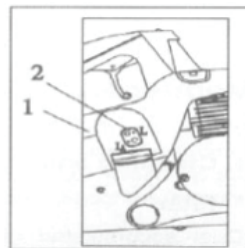

Fig 9
2. Adjusting the carburetor The carburetor has been preset and factory adjusted to provide an optimum mixture of fuel/air, for an efficient, reliable operation of the motor, with reduced emissions. The air filter and spark plug must be inspected and maintained periodically. If the angle grinder is found to be working unsatisfactorily (such as idling, excessive or insufficient speed or the persistence of abnormal noxae), a slight adjustment of the carburetor may be necessary, including (ref. Fig. 9):
a. Standard setting adjustment Find the low speed adjustment Screw "L" (see Fig. 9) within the upper slot of the carburetor cover, with the help of a screwdriver turn the L screw clockwise full torque. Afterwards, turn the L screw back (counterclockwise) to 360°. b. Idling speed adjustment: Usually, an idling speed adjustment is necessary after the Standard setting adjustment (a), in order to adjust the idling speed, first start the motor. • If the idling speed is too low, the motor may stop after start-up. In this case, first perform the standard setting, according to the instruction in section (a), then turn the LA screw, which adjusts the idling speed, clockwise (see Fig. 9) within the inner slot on the carburetor cover until the disc starts to rotate. Afterwards, turn the LA screw back (counterclockwise) to a quarter circle (90°). • If the idle speed is too high, the disc will operate at idling speed, which is not good for the angle grinder. In this case, first perform the standard setting, then turn the LA screw, which adjusts the idling speed, counterclockwise until the disc stops its rotation. Then turn the LA screw in excess of 90° (counterclockwise).